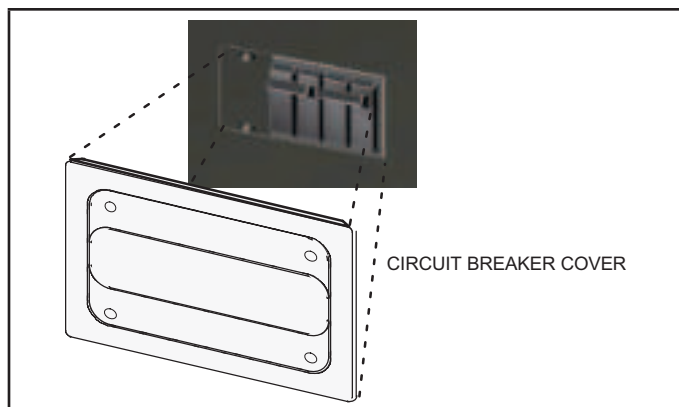

FIGURE 9. Circuit Breaker Cover Installation
- 4 - Position the breaker cover over the air handler circuit breaker opening (figure 9).